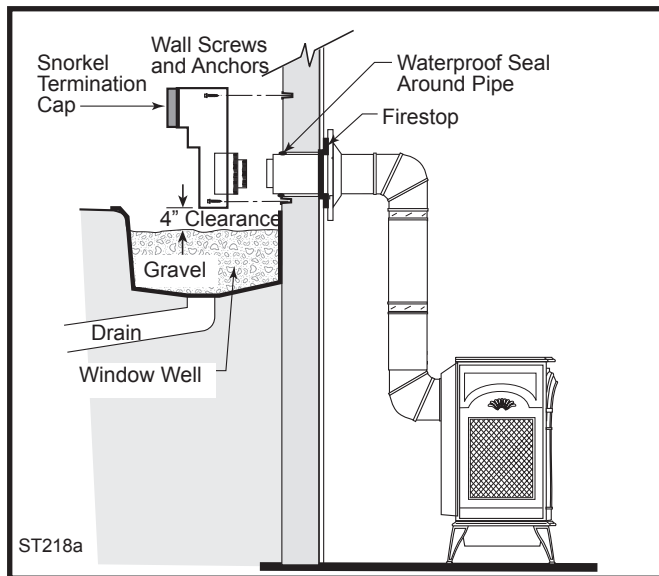

Fig. 29 Snorkel kit installation.
Install Snorkel #7TDVSNORK when it is not possible to meet the required vent termination clearances of 12" (305 mm) above grade level. The snorkel kit will allow installation depth of down to 7" (178 mm) below grade level. The seven inches is measured from the center of the horizontal vent pipe as it penetrates the wall. **If the venting system is installed below grade, a window well must be installed with adequate and proper drainage.** (Fig. 29)
2. Remove soil to a depth of approximately 16" (400 mm) below the base of the snorkel. Install a window well (not supplied). Refill the hole with 12" (305 mm) of coarse gravel and maintain a clearance of at least 4" (102 mm) below the snorkel. (Fig. 29)